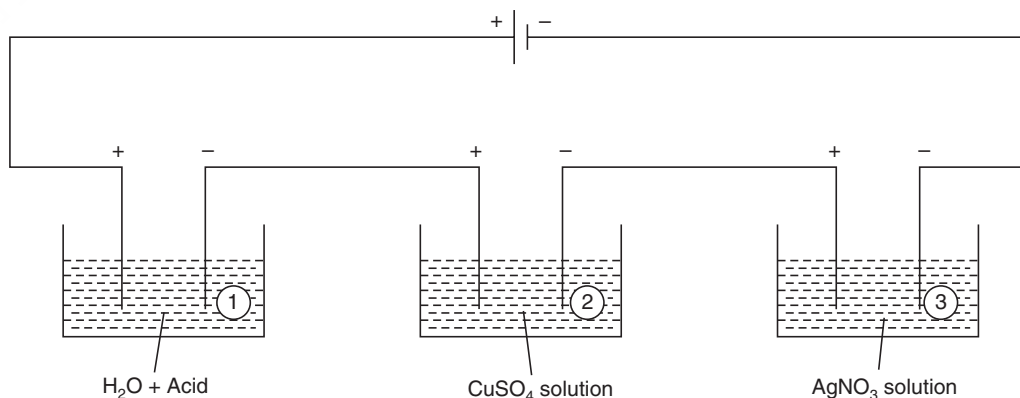

Fig. 9.2 Different voltmeters containing different electrolytes.
That is to say, when 1 g of  $H_2$  is liberated in cell (1), 63.5/2 g Cu will be liberated in cell (2) and 108 g Ag will be liberated in cell (3) (Fig. 9.2).